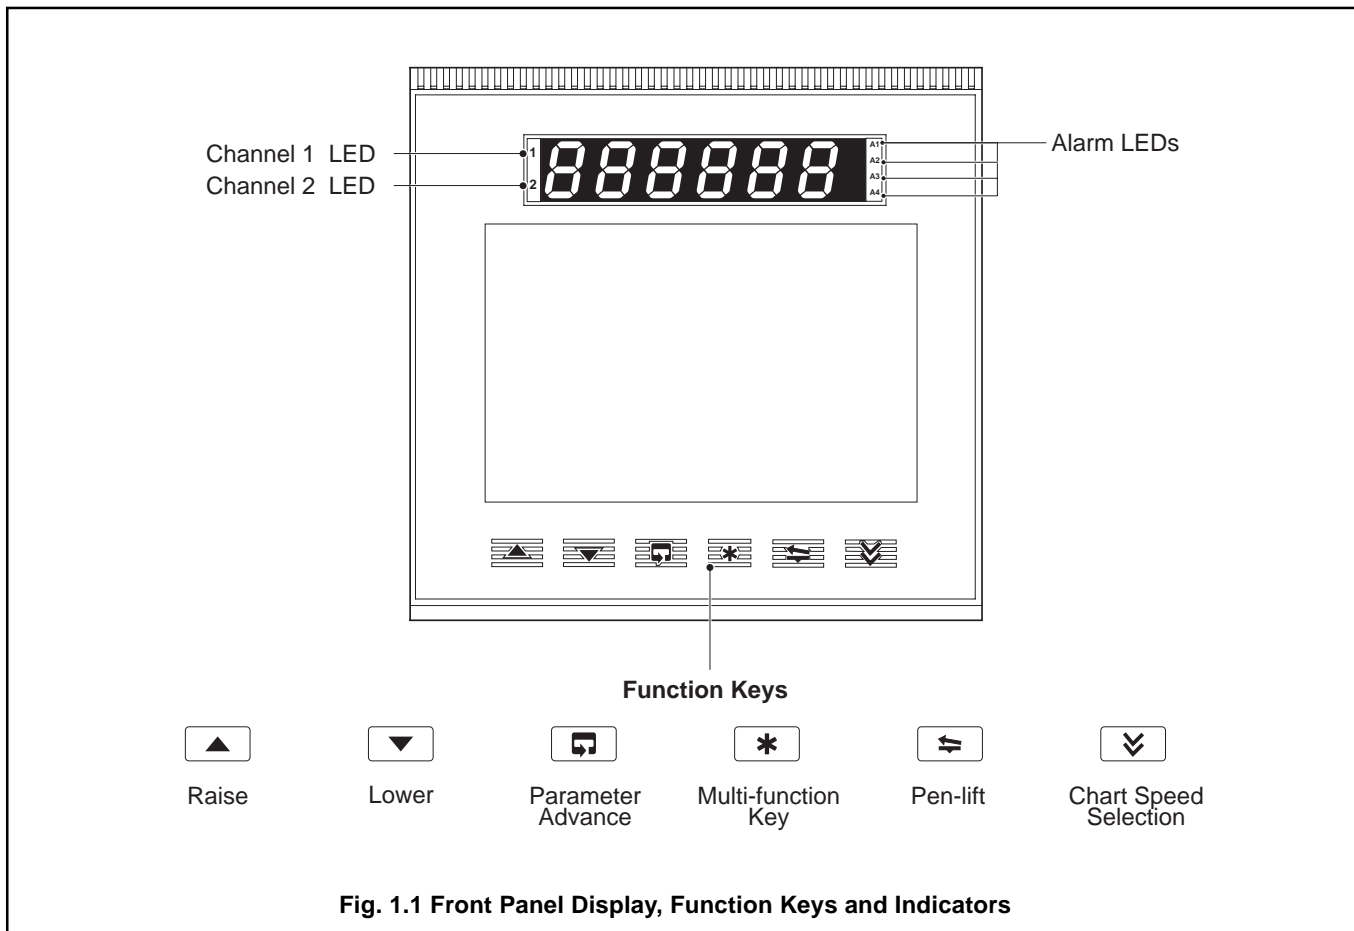

Fig. 1.1 Front Panel Display, Function Keys and Indicators
1.1 Introduction – Fig. 1.1
The COMMANDER CR100 front panel display, function keys and alarm indicators are shown in Fig. 1.1.
The front panel display, function keys and l.e.d. indicators are shown in Fig. 1.1